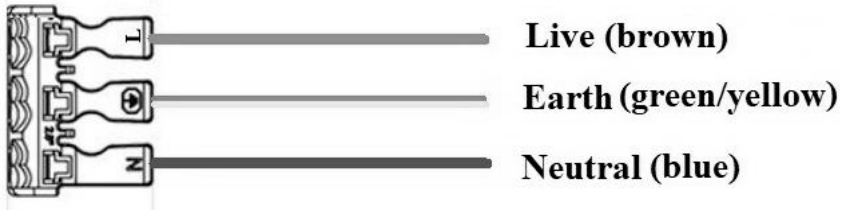

Fig. 2
- Connect the luminaire to the mains supply ensuring that correct polarity is observed (see Fig. 2): L - Live (brown), E - Earth (green/yellow), N - Neutral (blue). The earth terminal is non-functional and only provided for convenience. Two cables can be inserted into the push-fit terminal block in order to achieve loop in / loop-out wiring